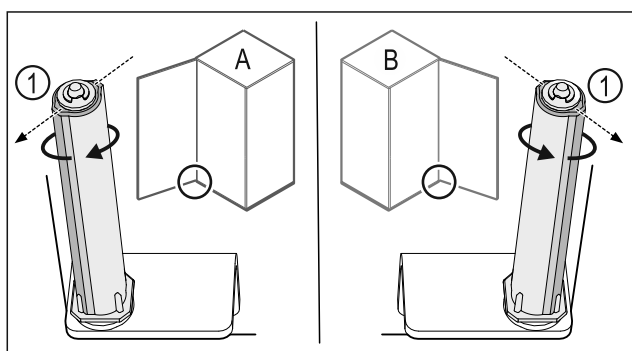

Fig. 26 Left-hinged (A) / Right-hinged (B)
- Turn the closing system against the resistance until the bar of the closing system Fig. 26 (1) points outwards.